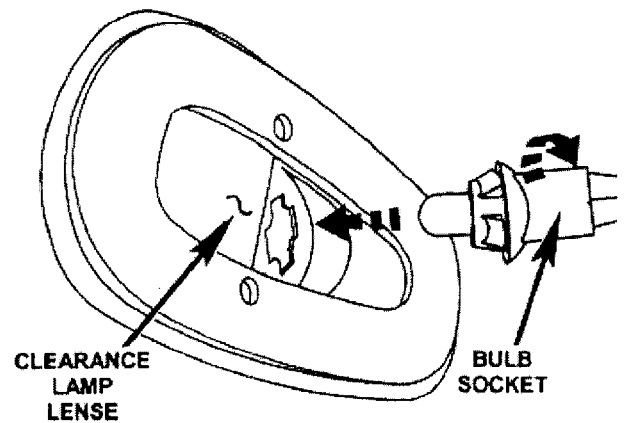

Figure 6
22. Insert bulb sockets into the clearance lamp lenses (Figure 6).